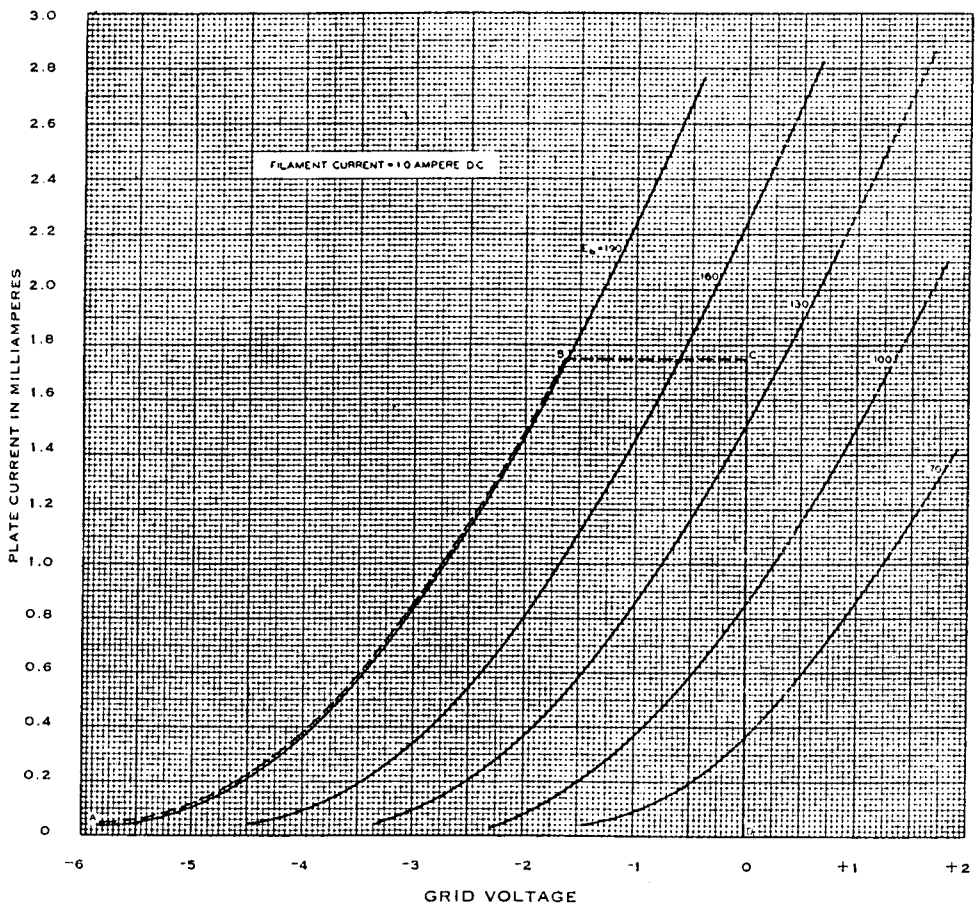
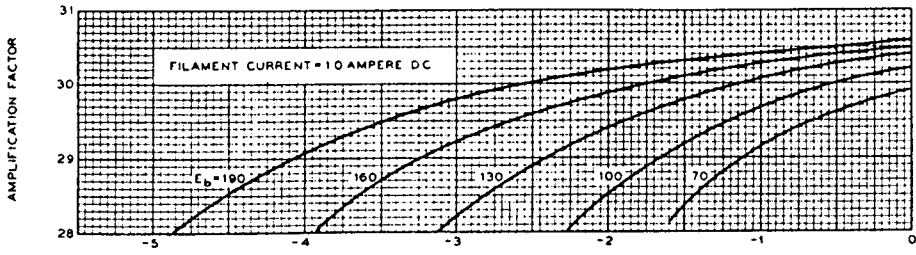
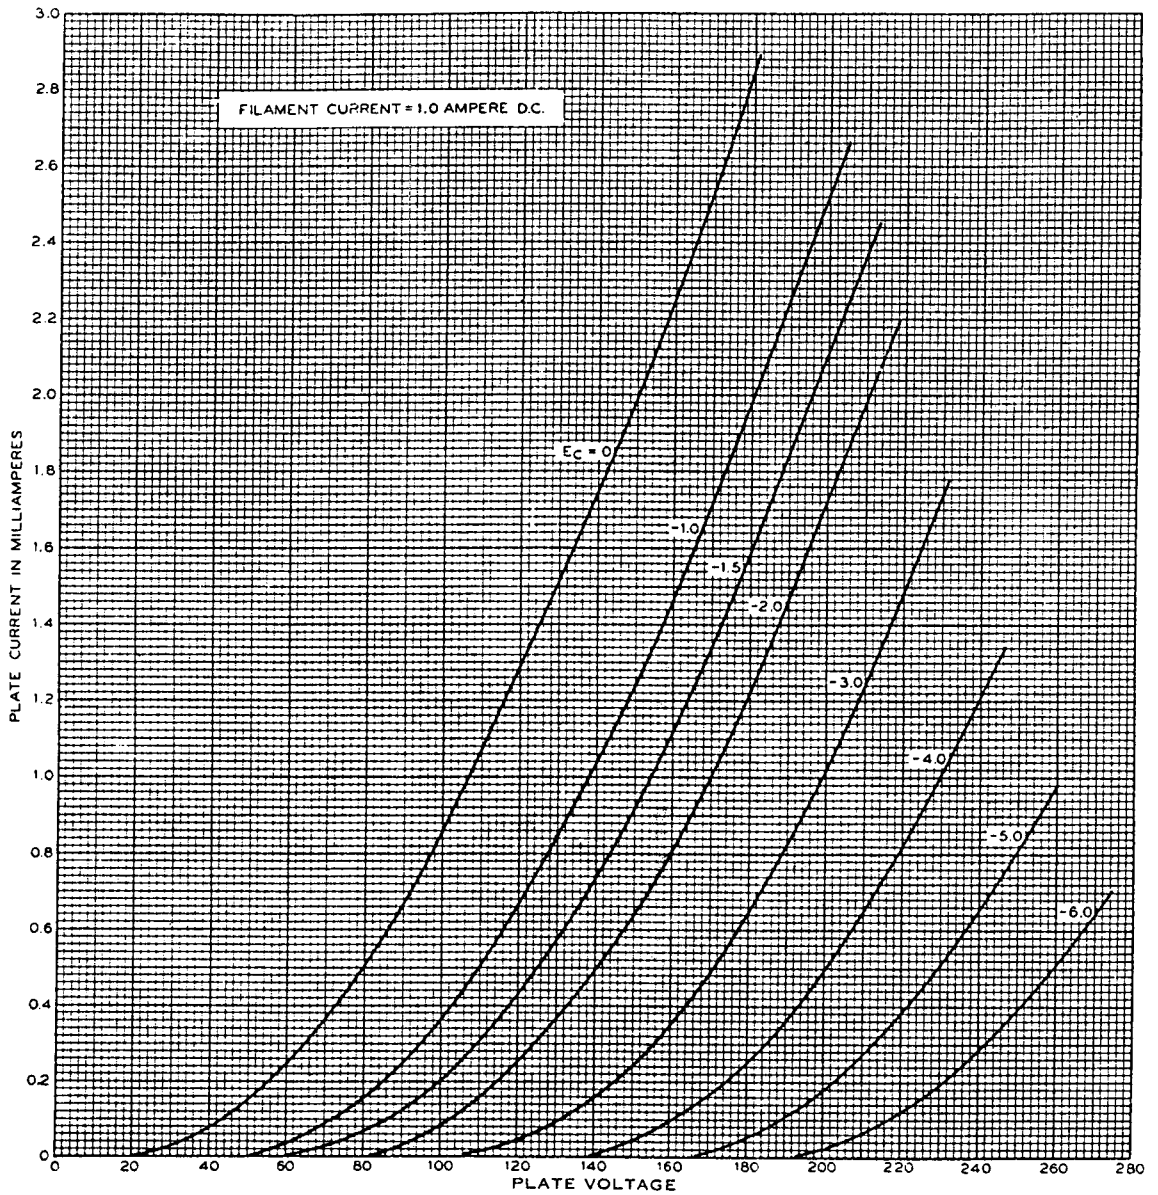

FIG. 3
FIG. 4
FIG. 7
**Characteristics**—Plate current characteristics of a typical 102D tube are shown in Figure 3 as functions of grid voltage for several values of plate voltage. The grid and plate voltages are measured from the negative end of the filament. Corresponding amplification factor, plate resistance, and transconductance characteristics are given in Figures 4, 5 and 6, respectively. Plate current characteristics as functions of plate voltage are shown in Figure 7 for several values of grid voltage.
**Operating Conditions and Output**—Permissible operating plate and grid voltages are included within the area, ABCD, in Figure 3. Amplification factor, plate resistance, transconductance, and performance data are given in the table on page 3 for a number of typical operating conditions represented by selected points within this area. The less severe operating conditions should be selected in preference to maximum operating conditions wherever possible. The life of the tube at maximum conditions may be shorter than at less severe conditions.